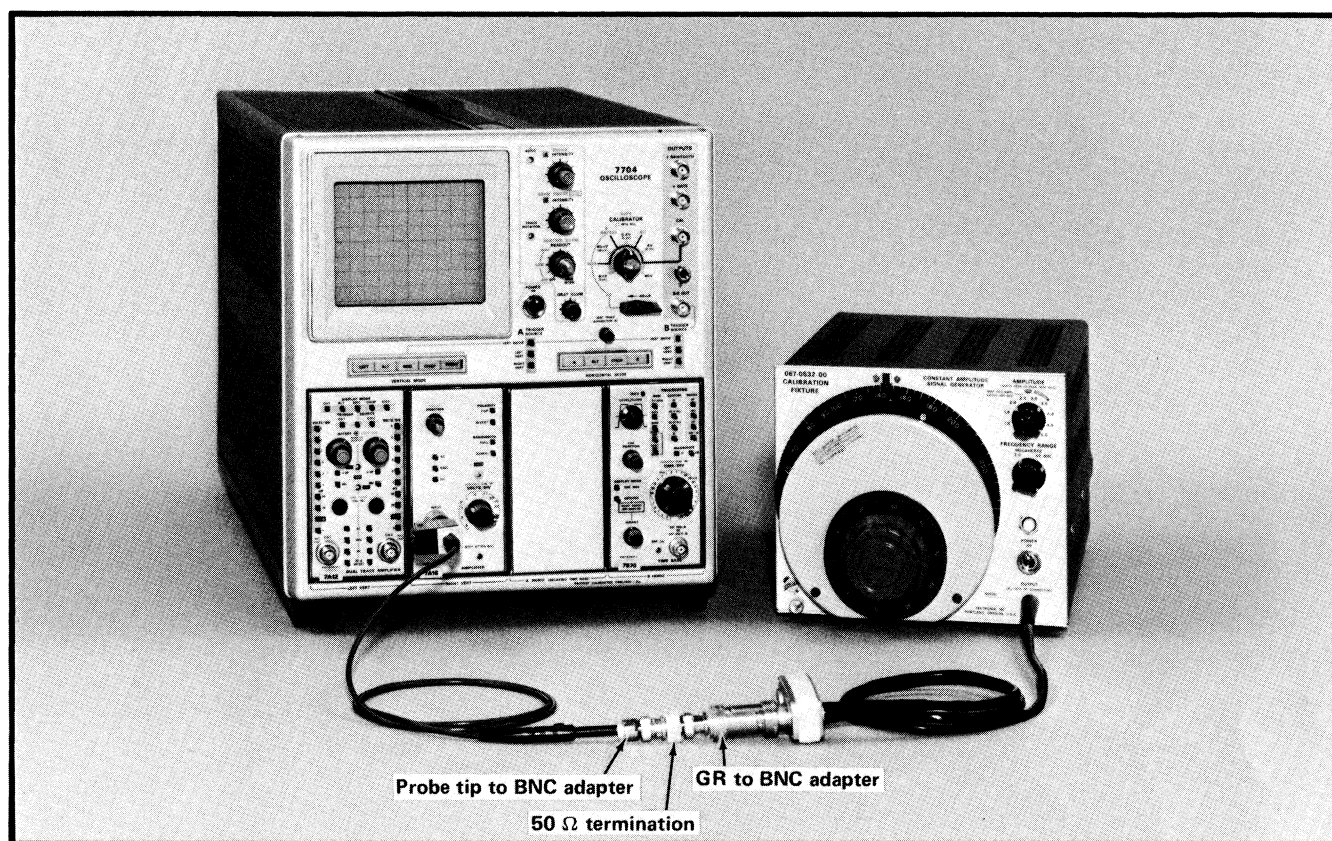

Fig. 4-6. Equipment setup for step 7.
a. Equipment setup is shown in Fig. 4-6.